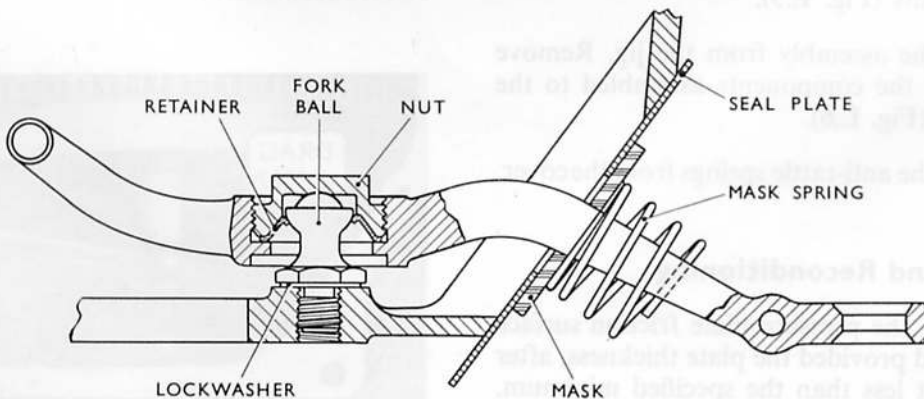

Fig. E.4. Sectioned view showing clutch fork assembly details
3. Assemble the sealing components against the housing fork aperture as shown in Fig. E.4. The seal plate must be fitted with its flange uppermost and facing towards the clutch housing.